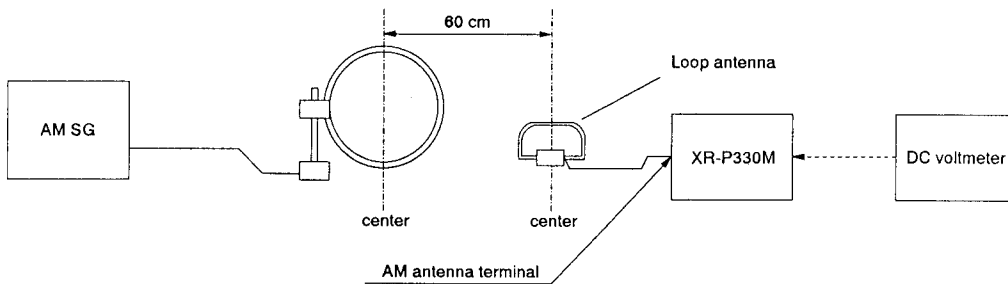

Fig. 7-2. AM Adjustment Connection Diagram
7.2 ADJUSTMENT OF AM (MW) TUNER SECTION
- Set the mode selector to AM (MW) BAND.
- Connect the wiring as shown in Fig. 7-2.